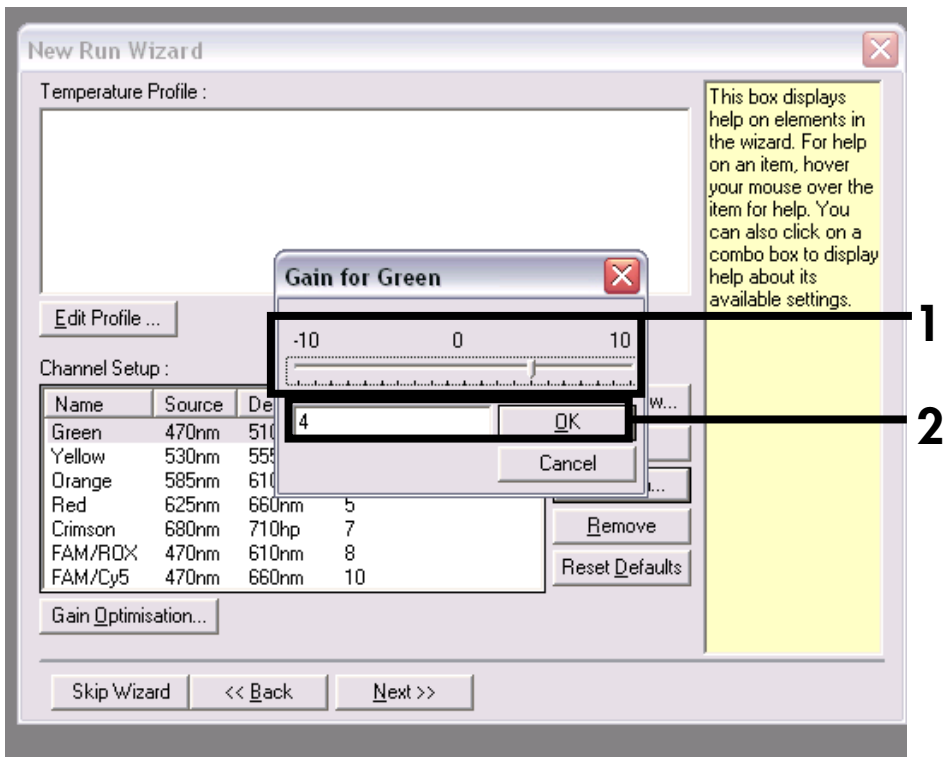
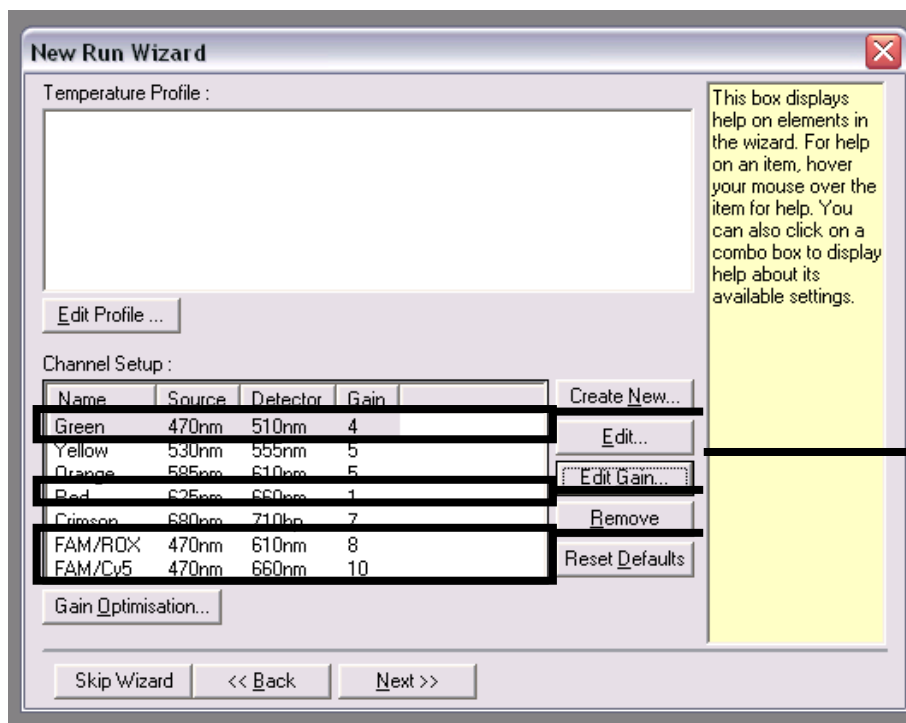

Figure 8. Editing the gain. As an example, the figure shows setting the gain to 4 for the Cycling Green channel.
Figure 9. Final gain settings for all channels. Channels required are: Green, gain 4; Red, gain 1; FAM/ROX, gain 8; and FAM/Cy5, gain 10.
Editing the gain	Figure 8, Figure 9
10. Edit the gain for each channel as shown in **Figure 8**. The final gain settings for each channel are indicated in **Figure 9**.